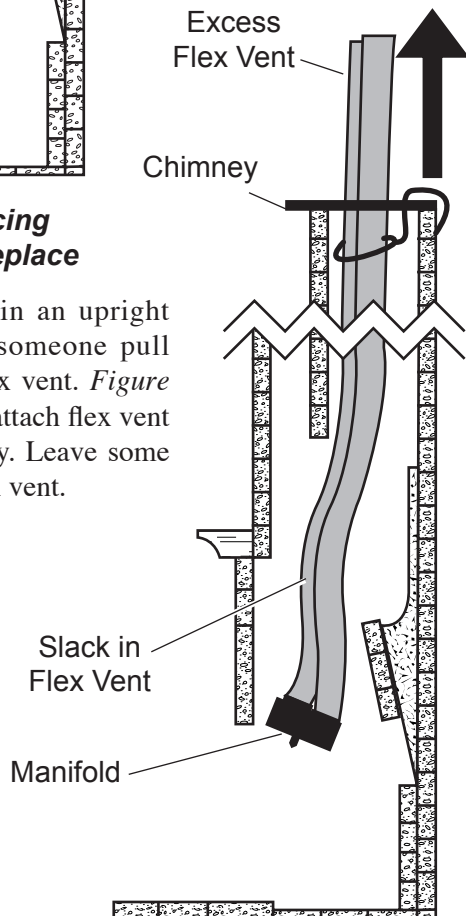

Figure 12 - Pulling On Excess Flex Vent
5. Place manifold in an upright position. Have someone pull on the excess flex vent. *Figure 12*. Temporarily attach flex vent to top of chimney. Leave some extra slack in flex vent.